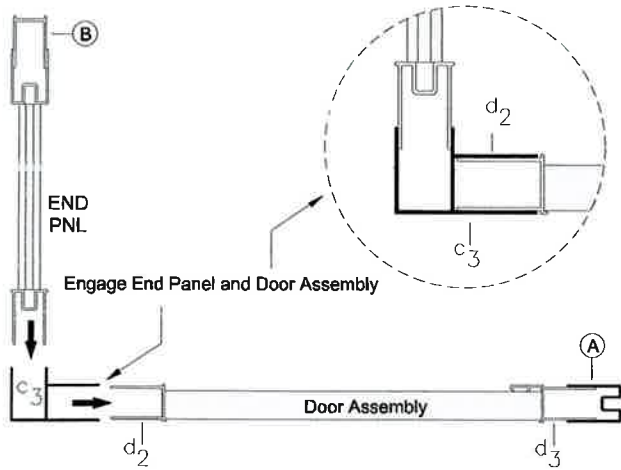

figure 4
Engage the Corner Post (c3) and the Door Assembly (d2) to engage their full length as shown in figure 4 above
Secure Door Assembly to Corner Post using three(3) 812QPT self drilling phillips screws (G) making sure it engaged as per figure 4.